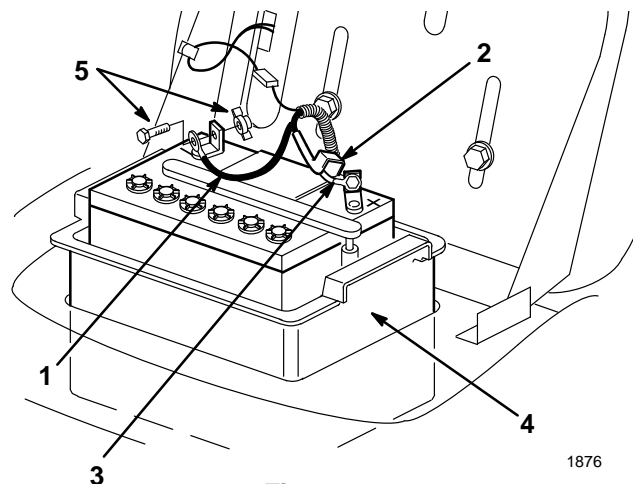

Figure 20
3. Disconnect the negative (black) ground cable from the battery post (Fig. 20).
4. Slide the rubber cover up the positive (red) cable. Disconnect the positive (red) cable from the battery post (Fig. 20).
3. Using the bolt and wing nut, connect the positive (red) cable to the positive (+) battery post (Fig. 20). Slide the rubber cover over the battery post.
4. Using the bolt and wing nut, connect the negative (black) cable to the negative (–) battery post (Fig. 20).